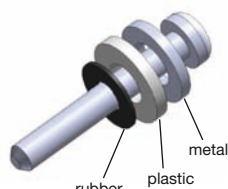

Fig. 2
- Use the supplied sealing rings and washers (Please note correct order, fig. 2).